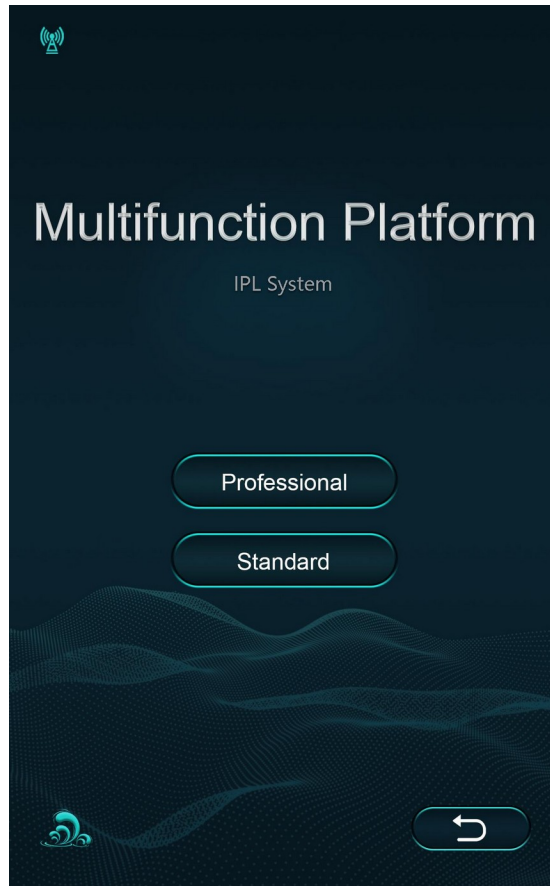
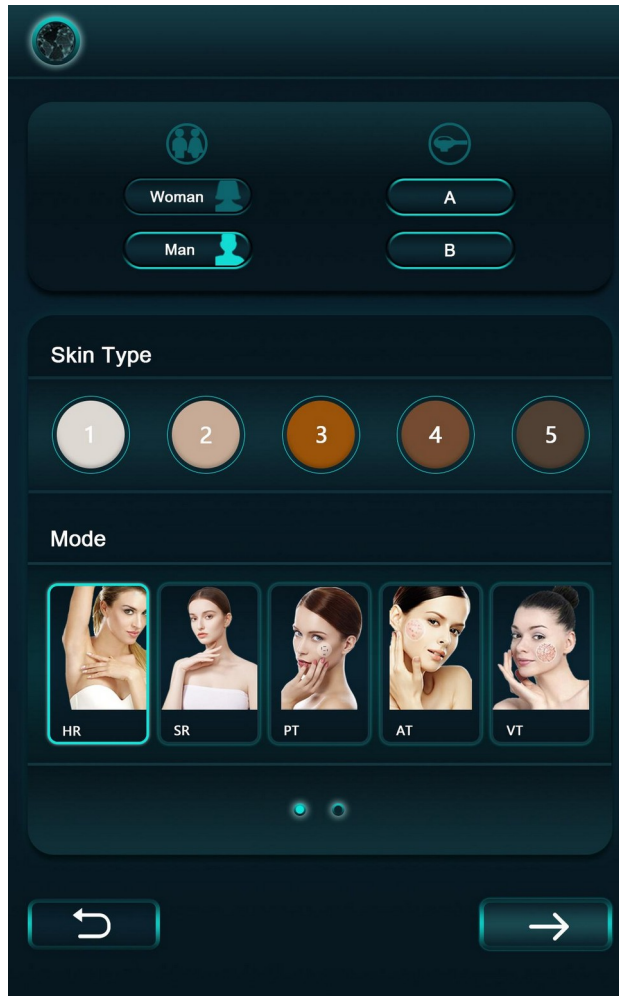

Figure 5.1
Figure 5.2
Turn the unit on by turning the key switch clockwise. The screen will show the working menu and will run a system check diagnostic program (see Figure 5.1). When you attach a treatment handpiece, the software will recognize its function and select the treatment automatically. The interface will jump to the main screen, as in Figure 5.2. If you want to change to another treatment handpiece, you must turn off the machine first, attach the handpiece you need, and restart the machine. The screen will show the main menu (see Figure 5.1). Press “Enter” to select the therapy program.
1. Main menu. Note: the device recognizes the type of handpiece automatically; the other handpiece type buttons are inactive (Figure 5.1).
2. Skin type, gender, mode selection, and treatment head. For the two handpieces, A (12 × 35 mm) and B (15 × 50 mm), there are five preset treatment modalities: Hair Removal (HR), Skin Rejuvenation (SR), Pigmentation Therapy (PT), Acne Therapy (AT), and Vascular Therapy (VT) (see Figure 5.2).